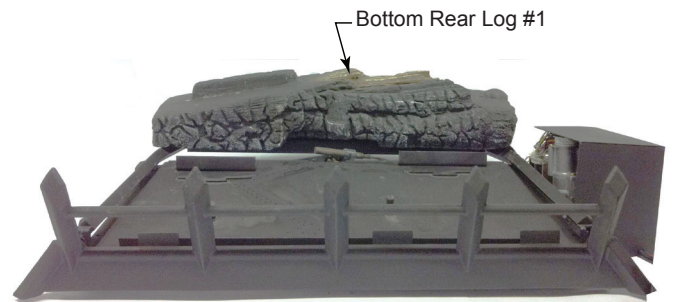

Figure 36
- Place bottom log (#1) on two (2) pins on rear of grate assembly and push towards rear as far as possible. *Figure 36*